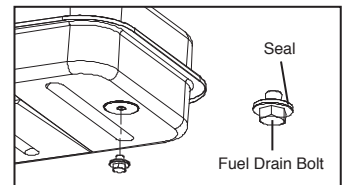

Figure 10. Fuel Drain Bolt
(For KFA135WH/180WH/220WH Models Only. See Figure 10)
5. Reinstall fuel drain bolt to Fuel tank and tighten firmly using 3/4" socket or adjustable wrench. (For KFA135WH/180WH/220WH Models Only. See Figure 10)